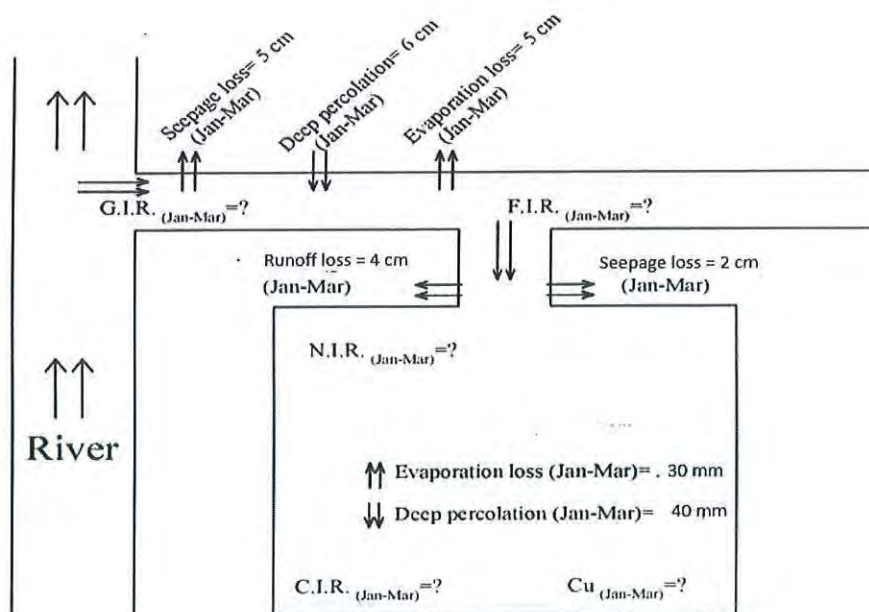

Figure 1
- b) An irrigation project located in Sirajganj district of Bangladesh diverts surface water from Jamuna river through a canal for irrigating an area of 6150 hectares, Based on the data and information provided in the **figure 1** and **table 1** below, calculate the following for the period from January to March: 5